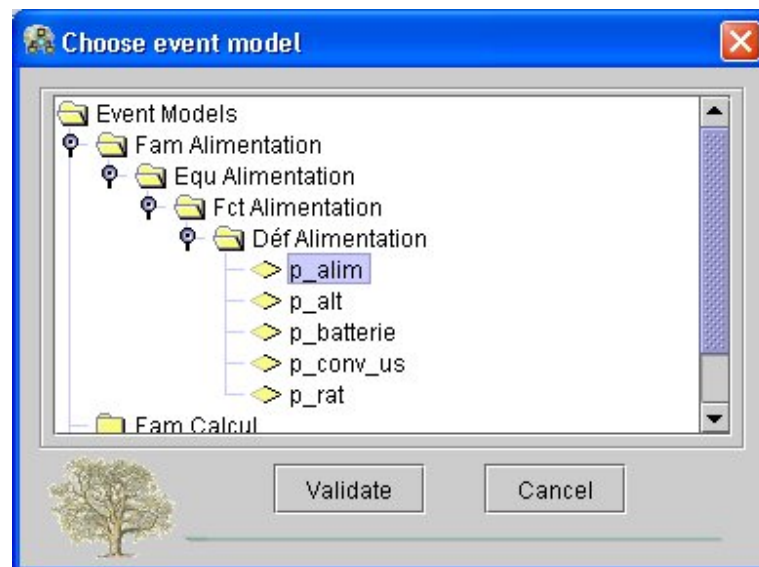

Figure 58 : Event model link editor assistant window
2. Select the FRB radio button, then fill the field in or alternately click on the right button to access to the FRB (Failure Rate Bank) tree manager that shows the existing event models (See Figure 58). The path entered in the field must be an event model from the FRB (Failure rate Bank) defined in FaultTreeAnalysisSystem (See User's Guide - FaultTreeAnalysisSystem Module: Failure Rate Bank).